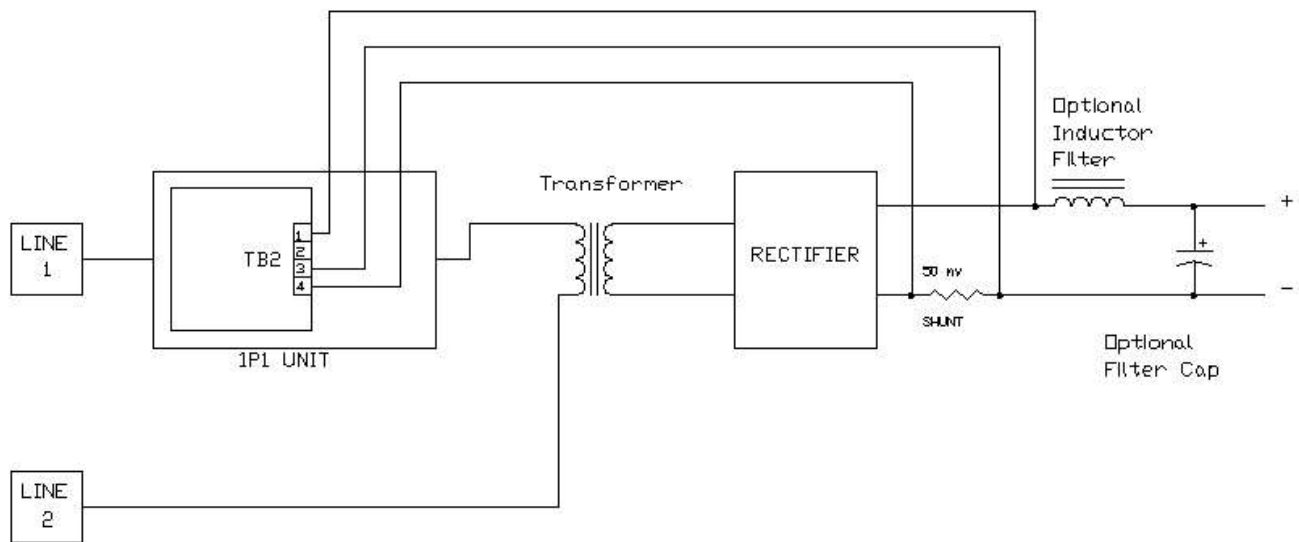

Figure 9
2. The Current feedback signal is from a 50millivolt shunt that is located in the negative leg of the DC output circuit. For proper performance the shunt must be connected directly to the negative output of the rectifier before any filter components. Fig 9 shows typical connections. The shunt signals are then brought back to TB2 pins 3 & 4 on the V/T option card with pin 3 being the positive side of the shunt and pin 4 being the negative.
3. A DC Voltage feedback signal is also required from the positive output of the rectifier. A single lead wire that is appropriately rated and fused is connected to the rectifiers positive output prior to any filtering components and is brought back to TB2 pin 1 on the V/T option card as the DC voltage feedback signal. Fig 9. Shows typical connections.